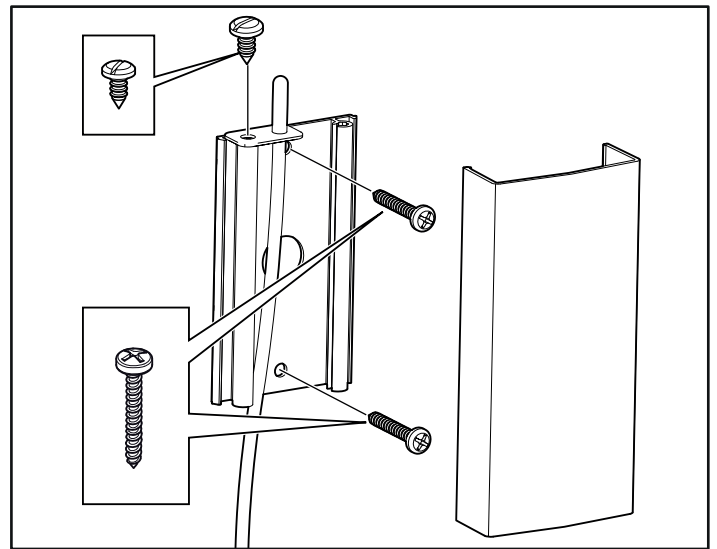
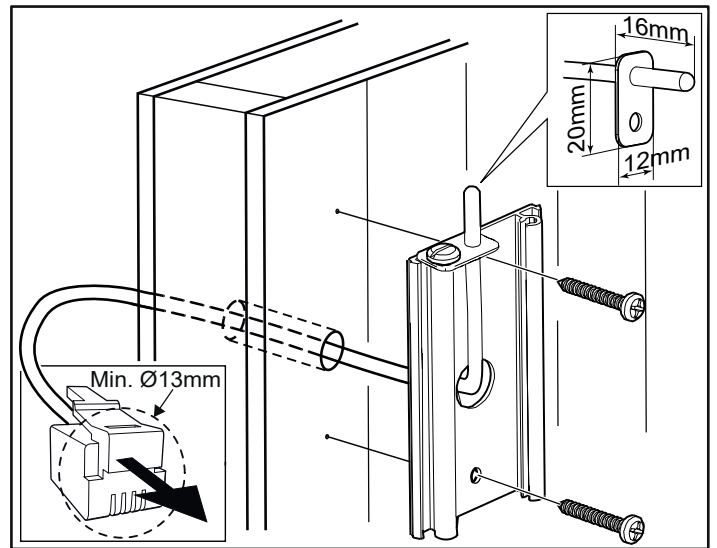

Figure 16: Installing the sensor
Figure 17: Wiring through the wall.
11. Install the sensor on the wall see Fig 16. The thermistor wire may also be passed through the wall. Seal any holes in the wall behind the sensor, see Figure 17. The thermistor wire may be extended outside the sauna using low voltage wire (2-lead).